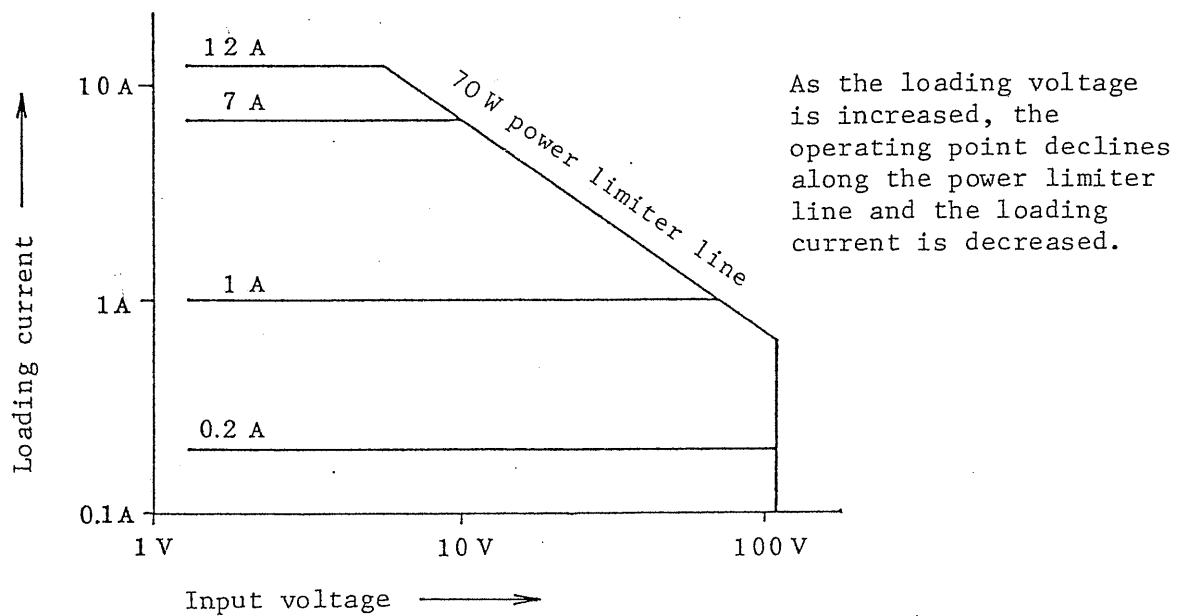

Figure 2-4-1
- o This mode of operation is such that the loading current is maintained constant irrespective of input voltage change, with input voltage versus loading current characteristics as shown in Figure 2-4-1. This feature is not attainable with regular sliding resistors.